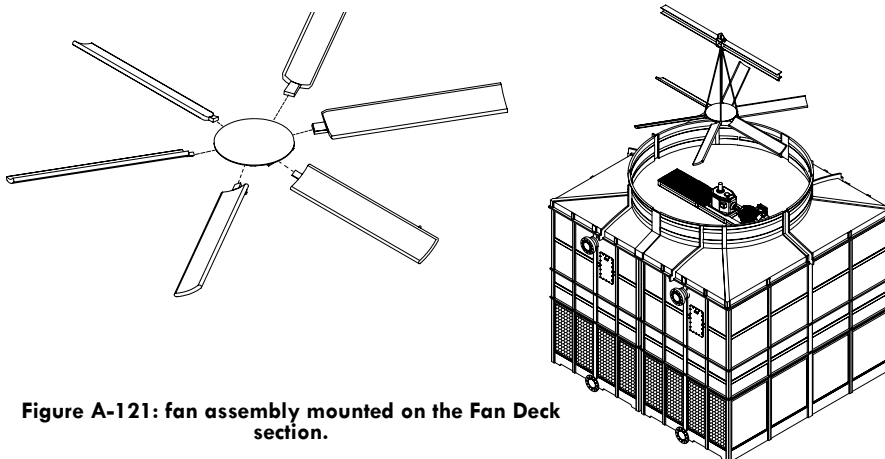

Figure A-121: fan assembly mounted on the Fan Deck section.
- W. Once the Fan Deck section has been installed, assemble the fan on the ground. Using a crane and a spreaded bar lift the fan assembly and mount it on the gear drive box following the Fan assemble procedure (See figure A-121).